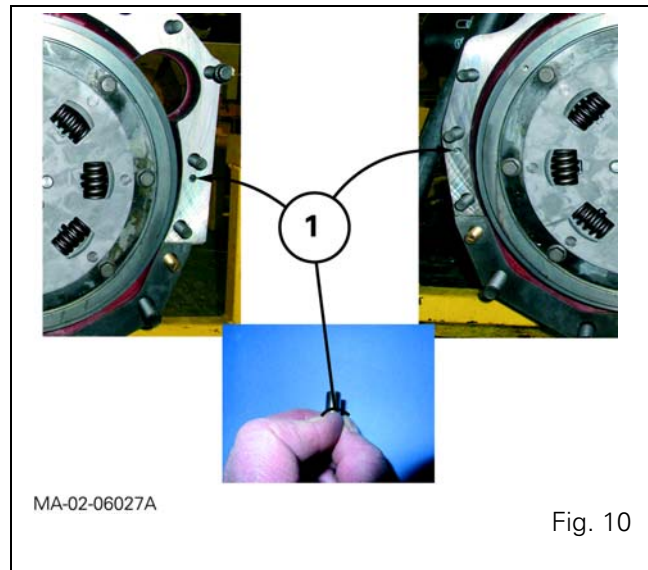

Fig. 10
26. Check the presence of locating pins (1) on the engine (Fig. 10).